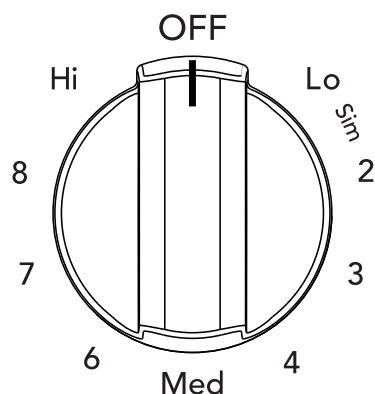

Figure 5: Surface control knob
2. Push in and turn the surface control knob in either direction (Figure 5) to the desired setting (refer to the Table 1).
Start most cooking operations on a higher setting and then turn to a lower setting to finish cooking. The surface control knobs do not have to be set exactly on a particular spot. Use the graphics provided as a guide and adjust the control knob as needed (see Figure 5).